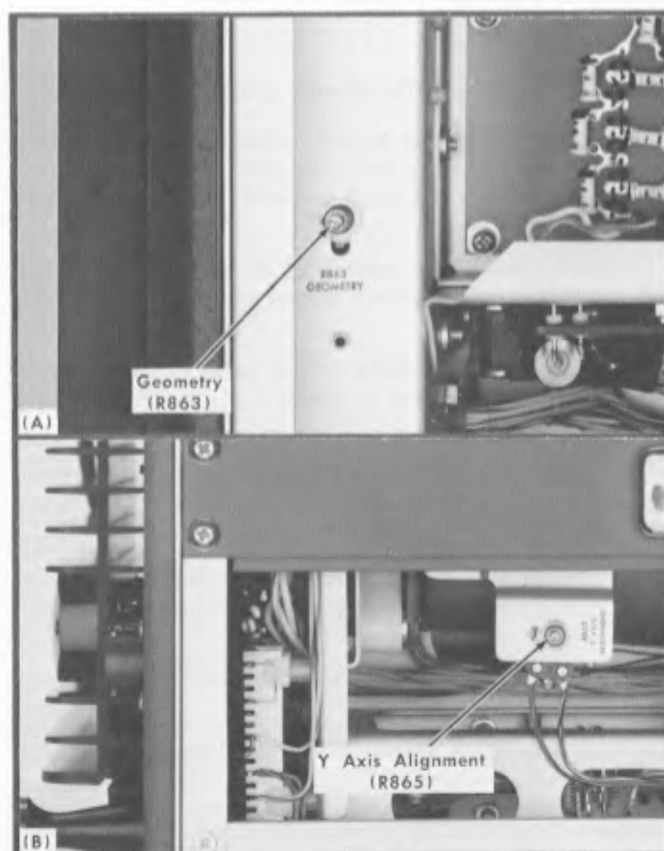

Fig. 6-12. (A) Location of Geometry control, R863. (B) Location of Y Axis Alignment control, R865.
g. ADJUST—Geometry control, R863 and Y Axis Alignment control, R865 (see Fig. 6-12) so the time markers (vertical lines) are parallel within 1 mm to the vertical graticule lines over the height of the vertical graticule area.